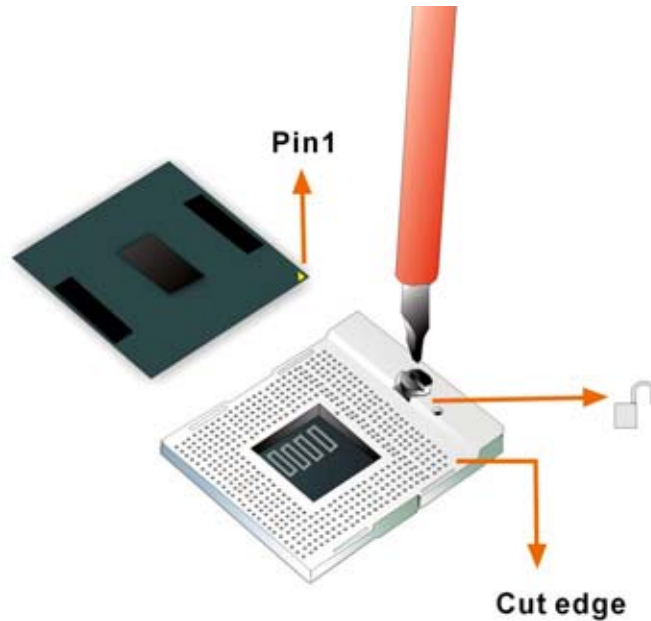

Figure 4-2: Unlocked Retention Screw
Step 3: Unlock the CPU retention screw. Make sure the retention lock is unlocked. See Figure 4-2.
- Step 6: Correctly position the CPU.** Match the Pin 1 mark on the CPU with the marked corner on the CPU socket. See **Figure 4-2**.